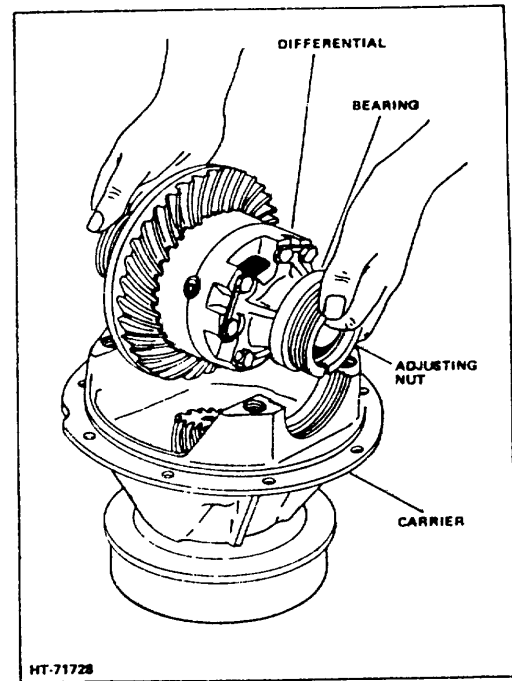

Figure 3-2. Removing Differential from Carrier
13. Remove the differential assembly (Fig 3-2) along with the bearing cones, cups, and adjusting nuts from the differential carrier.